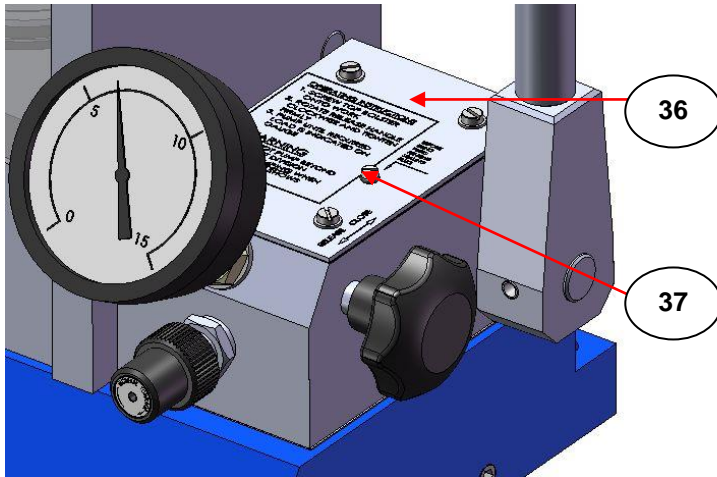

Fig 3. Nylon Vent Screw (Transportation Screw) to Remove
The press is supplied filled with hydraulic oil and is ready to use. The only preparation required before operation is to remove the nylon vent screw (37) from the pump plate (36) of the pump block assembly. (Please refer to Fig 3. on page 9.)